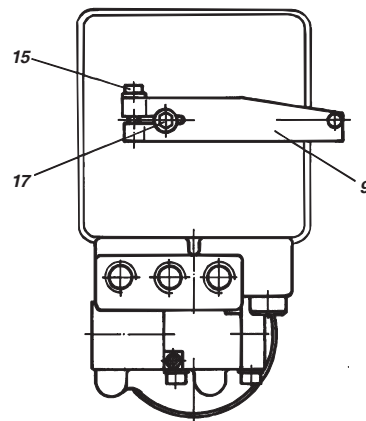

Fig. 17: Attaching feedback lever to the positioner
- e) Fasten feedback lever **9** for the rotary actuator onto shaft **17** of positioner as shown in Fig. 17.